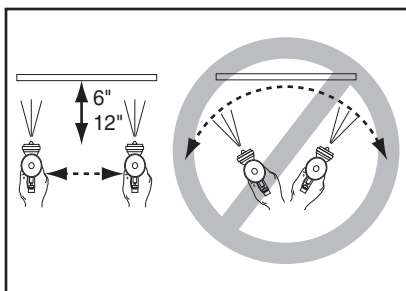

Figure 5. Spray technique.
9. Keep the gun tip perpendicular to the ground, parallel to the surface and 6-12" from the work at all times when spraying, as shown in **Figure 5**. Do not bend your wrist. This will cause the gun to arc across the surface and distribute the material unevenly, possibly creating sags and dry spots.